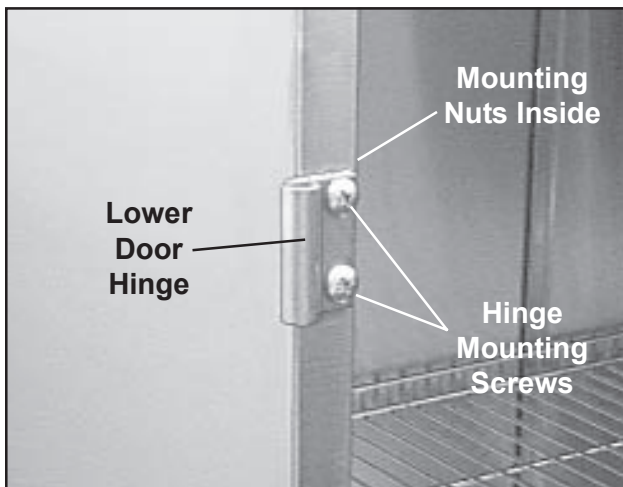

Figure 27. Lower Door Hinge and Mounting Screws and Nuts
2. With a Phillips screwdriver and a socket wrench with a 7/16 in. socket on a 3 in. extension, remove the two hinge mounting screws and nuts (Figure 27), and remove the hinge.